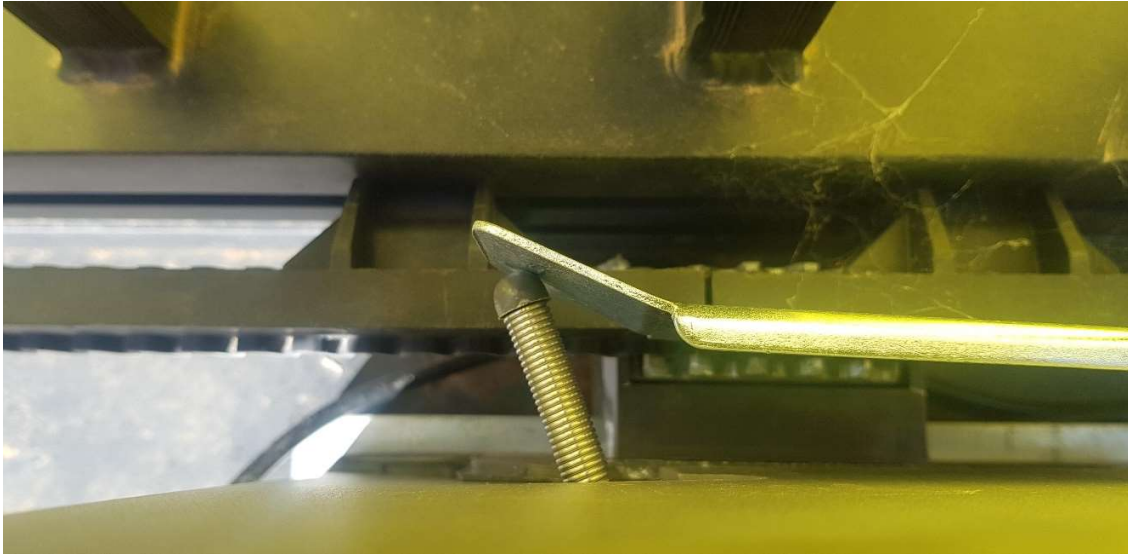

Fig 4
- The spring should contact the limit travel stop as close to the centre of the plate as possible (fig 4)